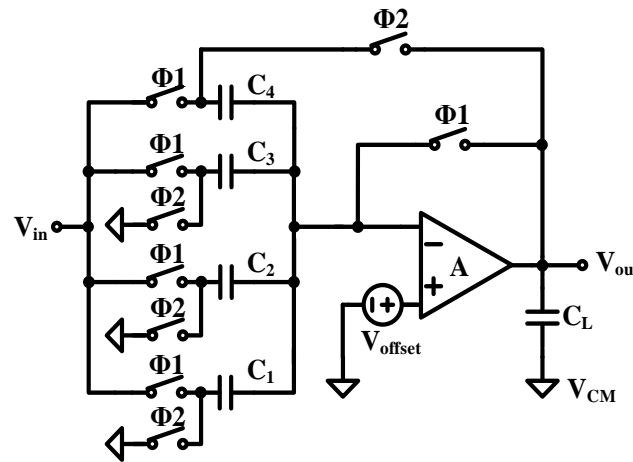

Fig. 2
- 2. Please express the steady-state output ( $V_{out}$ ) of the **multiplying-by-four gain amplifiers** (as shown in Fig. 1 & Fig. 2 ) in terms of  $A$ ,  $C_1$ ,  $C_2$ ,  $C_3$ ,  $C_4$ ,  $V_{in}$ ,  $V_{CM}$ , and  $V_{offset}$ , and explain the difference between Fig. 1 & Fig. 2.
- 3. Please design the **multiplying-by-four gain amplifiers** (as shown in Fig. 1 & Fig. 2) including two-stage OPAMP, bias circuit and non-overlapped clock circuit (as shown in Fig. 3). Then verify your design with Spectre/HSPICE. Assume  $C_1=C_2=C_3=C_4=1\text{pF}$  and  $C_L=2\text{pF}$